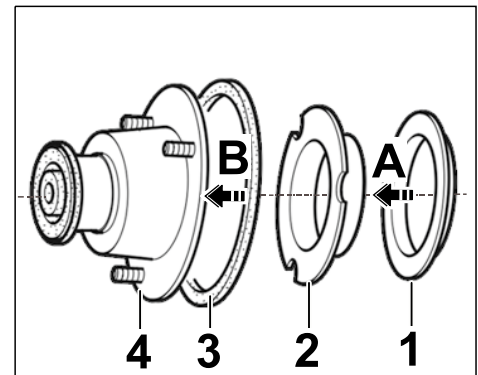

Figure 4
Press spring plate (compensation part) into the support ring (⇒ *Figure 4-A-*).
2.1.5 Complete the support ring/spring plate (compensation part) assembly using a new sealing ring and spring strut supporting mount (⇒ *Figure 4-B-*).